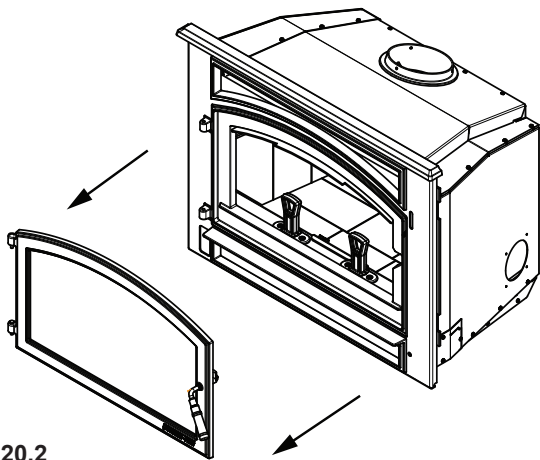

Figure 20.2
2. Remove door by unlatching handle from face and lifting up on door, set aside by laying it onto a protective surface (Figure 20.2).
8. Reinstall face to front of appliance (Figure 20.2 on page 20).
9. Reinstall the door to the face of the appliance (Figure 20.2 on page 20).